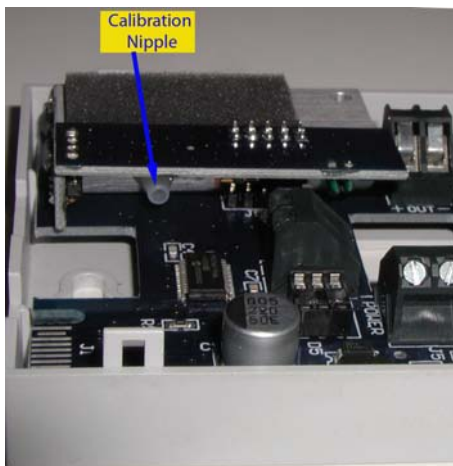

Figure 3: Showing location of calibration nipple
3. Locate the calibration nipple under the sensor's circuit board as shown in Figure 3.